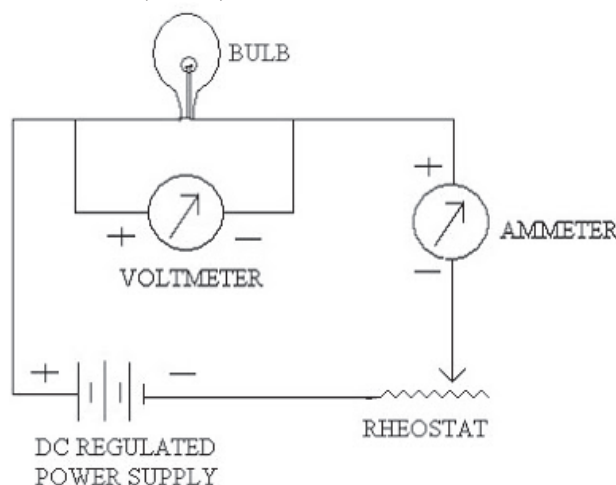

Figure 1
The apparatus in the experiment is a simple electric circuit as shown in figure 1. The 6V battery is connected to the electric bulb with rheostat. For the measurement of current and voltage the DC Voltmeter (0-10V) & DC ammeter (0-1 A) are connected.
1. Make connection as shown in figure 1.